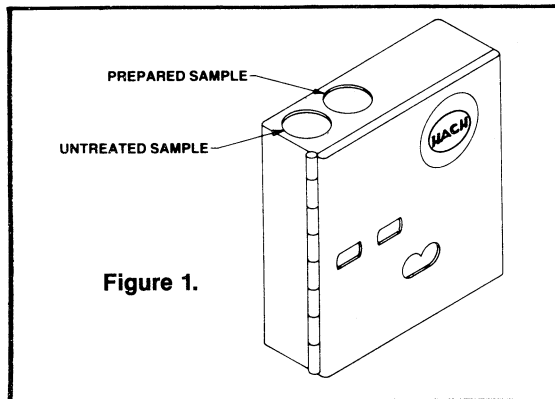

Figure 1.
7. Insert the tube of prepared sample into the right top opening of the color comparator (Prepared Sample Position in Figure 1).
8. Insert the tube of untreated water into the left top opening of the color comparator. (Untreated Sample Position in Figure 1).
9. Insert the tube of prepared sample into the right top opening of the color comparator (Prepared Sample Position in Figure 1).
10. Insert the tube of untreated water into the left top opening of the color comparator (Untreated Sample Position in Figure 1).